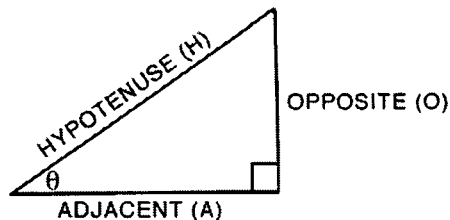

Figure A9
5. (angle) Refer to Figure A9. You will use this right triangle to show the basic trig functions. Note that one of the acute angles has been selected for use in expressing the functions. We call this angle θ (the Greek letter theta), and the sides are labeled with reference to this angle. The side directly across from θ is called the opposite side (O). The side next to θ is called the adjacent side (A).
6. (hypotenuse) The six basic trig functions of the angle θ in Figure A9 are: